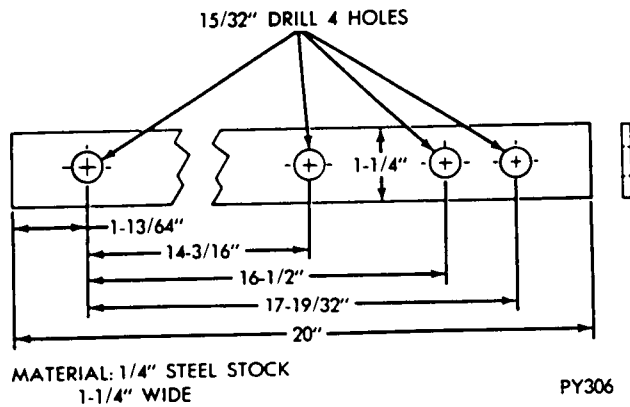
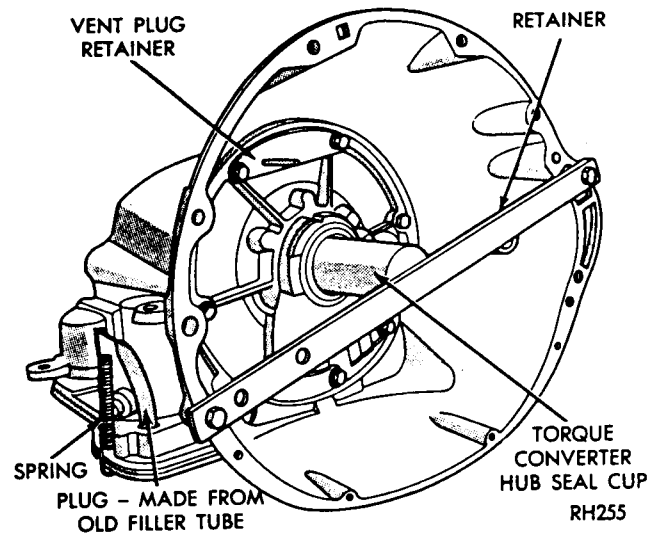

Fig. 9—Hub Seal Cup Retaining Strap
Fig. 12—Transmission Prepared for Test
- (1) Install filler tube bore plug, propeller shaft yoke (tie in with cord or wire), flared tube fitting cap (on front cooler line fitting), and a short piece of tubing, flared at one end, on the rear cooler line fitting (Figs. 12 and 13).
- (2) Remove necessary front pump housing bolts. Install vent plug (rubber stopper), and vent plug retainer preferably using longer bolts than those removed.
- (3) With rotary motion, install torque converter hub seal cup over input shaft, and through the torque converter hub seal until the cup bottoms against the pump rotor lugs. Secure with cup retainer strap (Fig. 9), using torque converter housing to engine block retaining bolts.